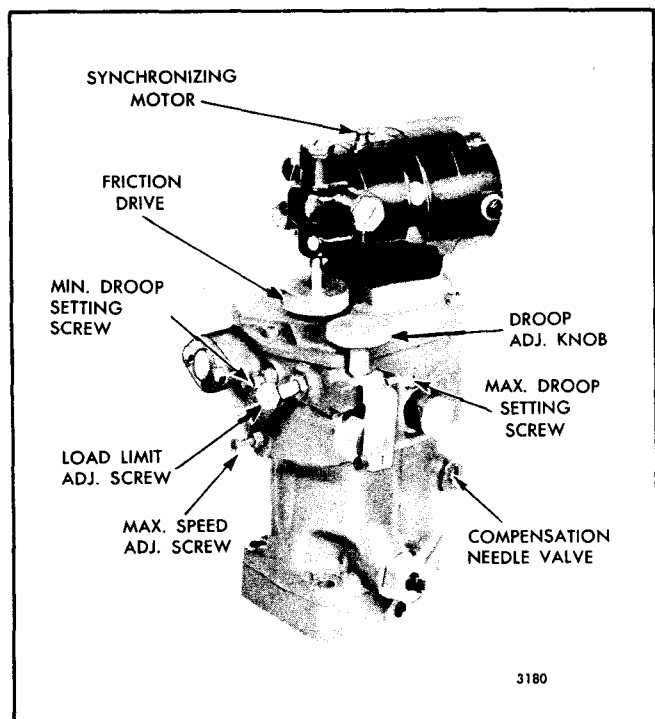

Fig. 11 - Typical Synchronizing Motor Mounting
1. Open the compensation needle valve (Fig. 11) two or three turns and allow the engine to "hunt" or
Some hydraulic governors are equipped with a reversible electric synchronizing motor (Fig. 11) mounted on the governor cover.